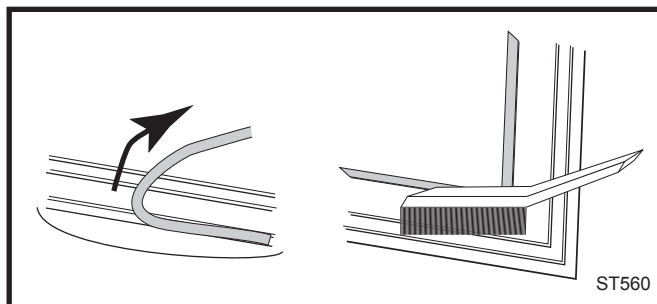

Fig. 32 Remove gasket then clean channel with wire brush.
- Use a wire brush or the tip of a screwdriver to clean the channel of any remaining cement or bits of gasket. (Fig. 32) Remove stubborn deposits of cement with a cold chisel if necessary.